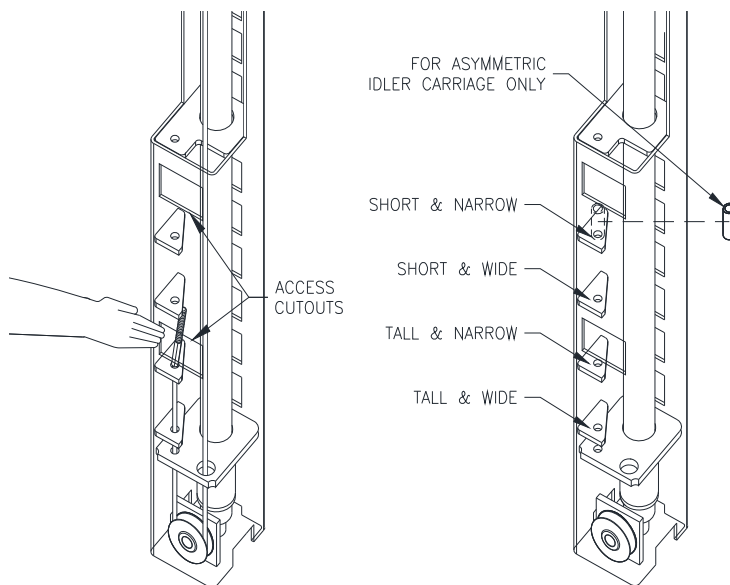

Fig 12a – Cable Attachment Points
- 25) Each cable is pre-routed around base sheave and up through the bottom of the Carriage. Attach that end of the Synchronizing Cable to the proper carriage tab according to **Fig 12a**. For Asymmetrical lift, use 85mm lg. spacer in Idler Carriage above appropriate tab.